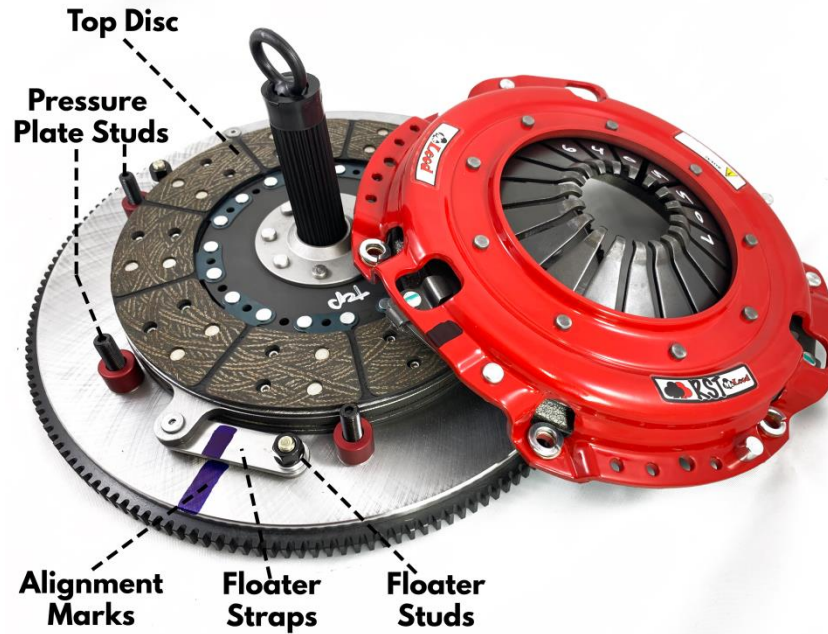

Figure 2
3) Remove top disc and alignment tool. Notice “Flywheel Side” on the disc center. See Figure 2